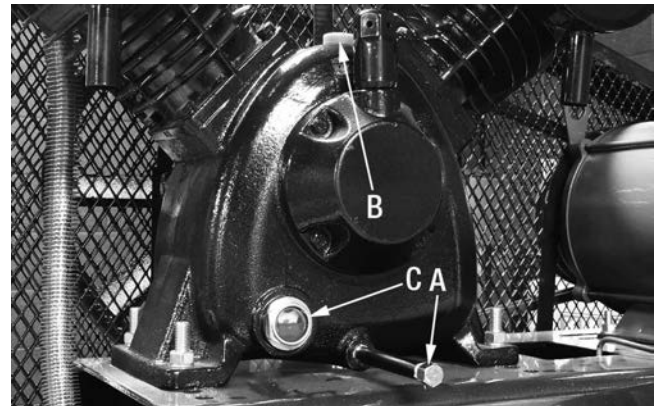

FIGURE 11
To change oil, oil must be drained from the crankcase by removing oil drain bolt (A) Fig.11. Drain oil and replace oil drain bolt. To fill the crankcase with oil, first unscrew and remove oil fill cap (B), pour air compressor oil (approx. 1.2 litres of SAE 30 weight non-detergent oil) into oil opening until the oil level reaches the red dot at the centre of the oil sight glass (C). Reinstall the fill cap (B).